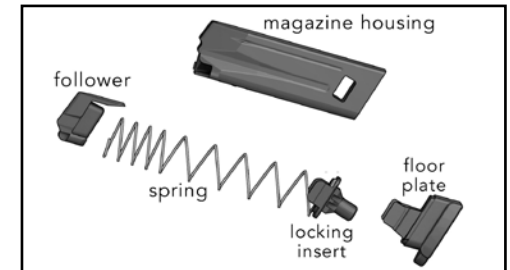

Figure 25
5. Remove the locking insert, magazine spring and magazine follower from the magazine housing. Figure 25 shows all the magazine components for 10 round magazines.